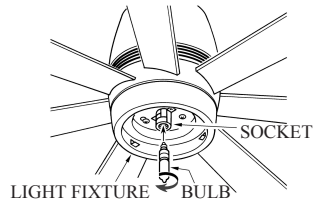

FIG.15
4. Plug the bulb into the socket. (see Fig.15)